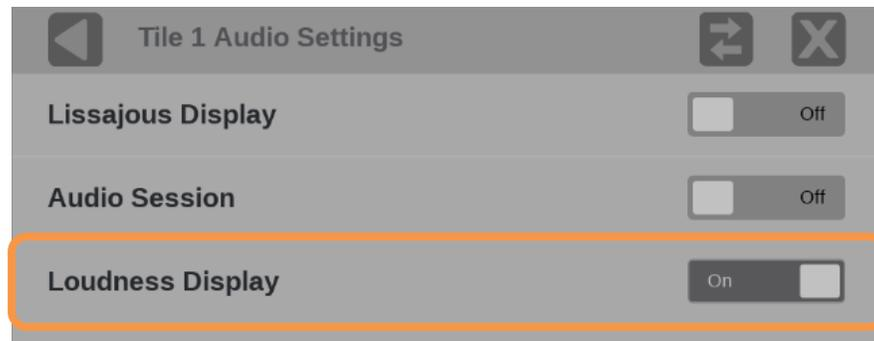

Figure 47: Audio Settings with the Loudness Display enabled
4. Set Loudness Display to **On**. (See Figure 47.)